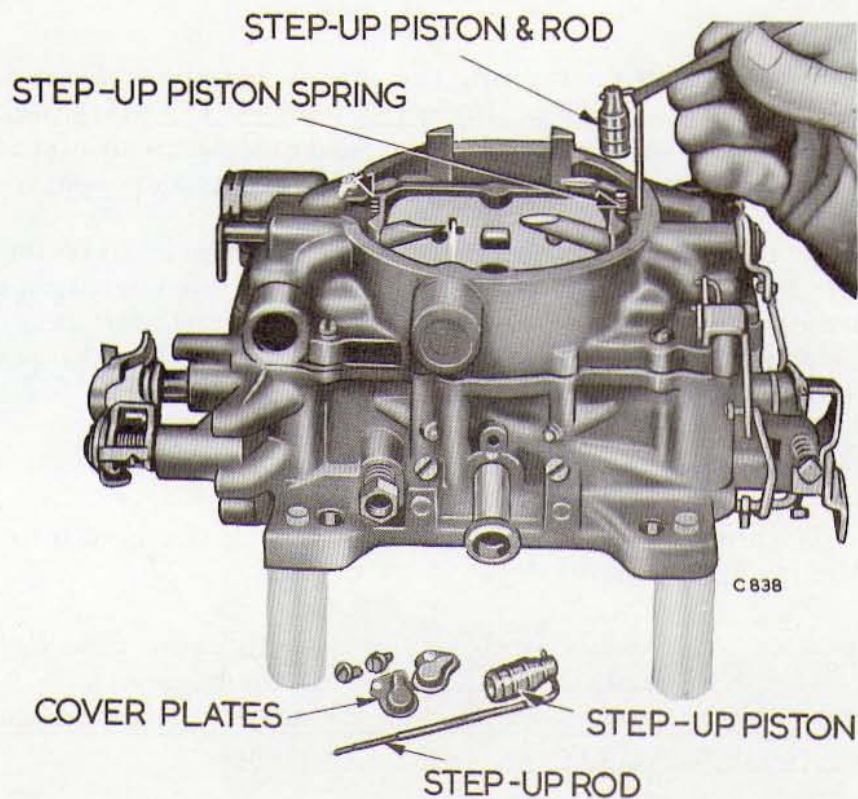

Fig. 9 Removing or Installing Step-Up Pistons and Rods
- (4) Remove the screws attaching the step-up piston and rod cover plates. Hold cover down with a finger to prevent the piston and rods from flying out. Lift off the plates and slide the step-up pistons out of the air horn, as shown in Fig.9. Remove the step up piston springs.
- (5) Remove the ten screws that attach the air horn to the main body. (1 screw in hole in air horn). Lift air horn straight up and away from the main body. When removing air horn, use care as as not to bend or damage the floats. Remove the accelerator pump, plunger lower spring from the pump cylinder.